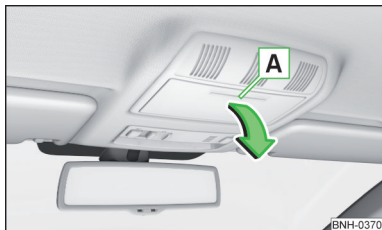

Fig. 70
- Press on the lid of the glasses storage box in area **A** » Fig. 70.
- Swivel the lid of the glasses storage box against the direction of the arrow » Fig. 70 until it audibly clicks into place.